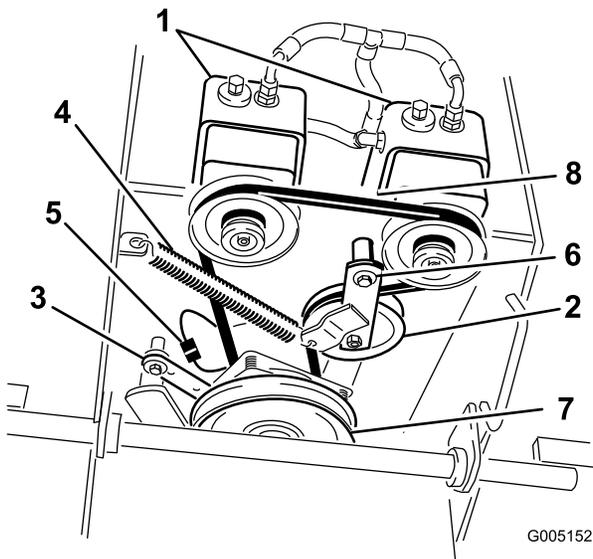

Figure 53
6. Disconnect the clutch retainer from the engine deck (Figure 53).
- Unhook the idler spring from the frame (Figure 53).
- Install the idler spring between idler arm and frame bracket (Figure 53).
- Install the clutch retainer to the engine deck (Figure 53).